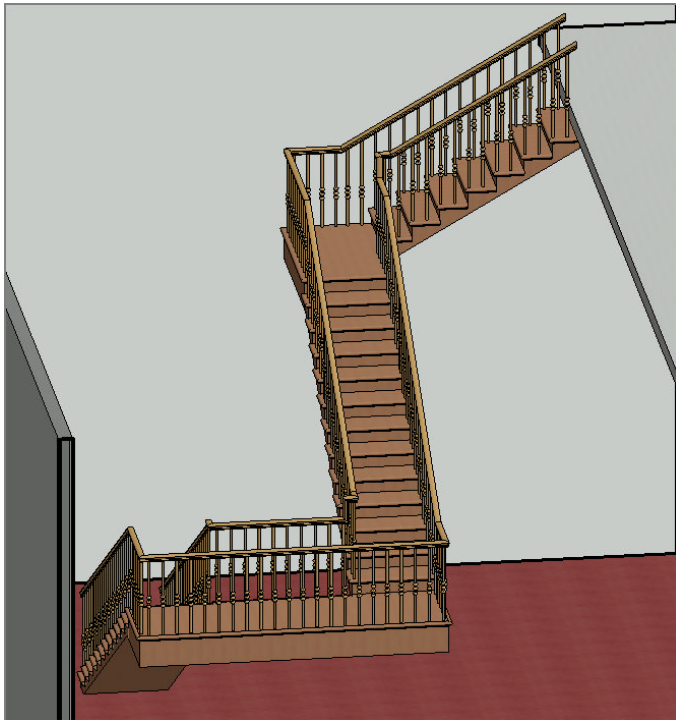

FIGURE 10.67: The stairs as shown in 3D. Notice the nice bullnose and the railings.
9. Go to a 3D view to check out the stairs. They should resemble Figure 10.67.